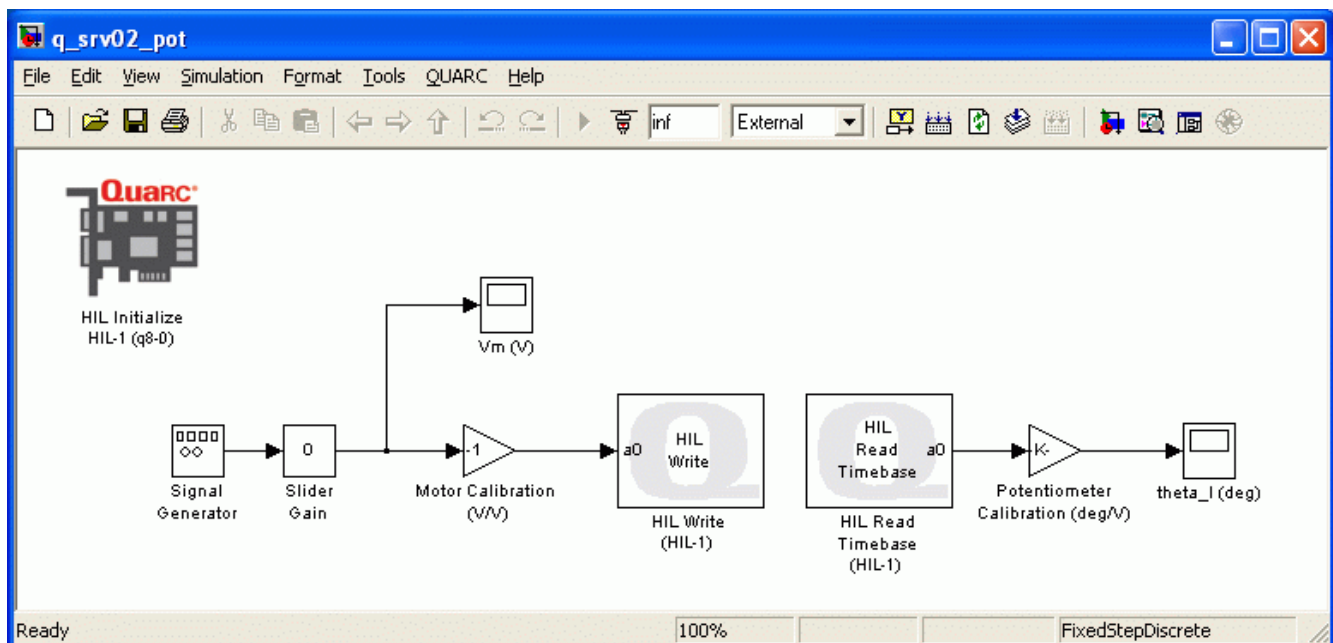
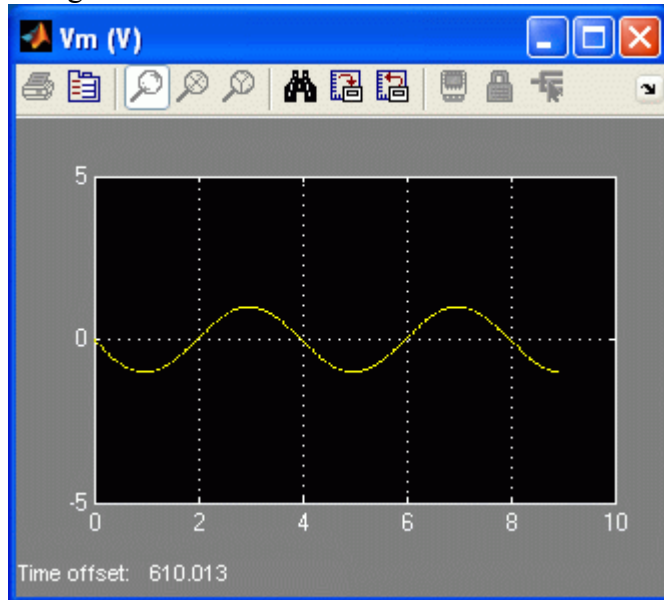

Figure 6: Simulink model used to send voltage to the SRV02 and obtain angular readings from the potentiometer.
Figure 7: Sinusoidal SRV02 input voltage.
The Simulink model will now be modified to read the load angle from the potentiometer and the voltage commanded to the motor, similarly as shown in Figure 6.
2. Add a Scope block from the *Simulink \ Sinks* folder in the Library Browser and connect it to the output of the Slider Gain block, as shown in Figure 6, above. Label the Scope block *V_m (V)* which stands for the input motor voltage.
4. Connect the Gain blocks as illustrated in Figure 6. Place one Gain block between the *Amplifier Pre-Compensation Gain* and the HIL Write Analog blocks and label it *Motor Calibration (V/V)*. Add the second Gain block between the HIL Read Timebase and *theta_1* Scope blocks and denote it *Potentiometer Calibration (deg/V)*.
7. Open the V_m (V) and θ_1 (deg) scopes.
9. Set the Slider Gain block to 1. The input voltage signal in the V_m (V) scope should be as shown in Figure 7.